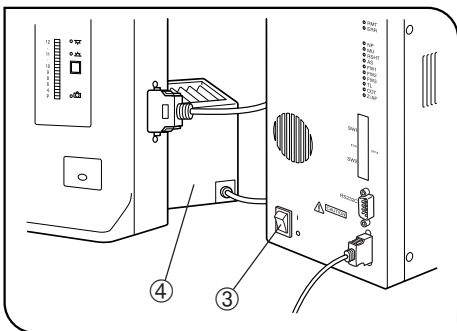

Fig. 2
5. When lowering the stage by pressing the stage DOWN button ①, be careful not to have your hand caught between the bottom ② of the condenser and the base.
8. To avoid potential shock hazards and burns when replacing the light bulb, set the main switch ③ to "⓪OFF" then disconnect the power cord from the wall outlet in advance. Whenever you replace the bulb during use or right after use, allow the lamp housing ④ and bulb to cool before touching. (Fig. 2)